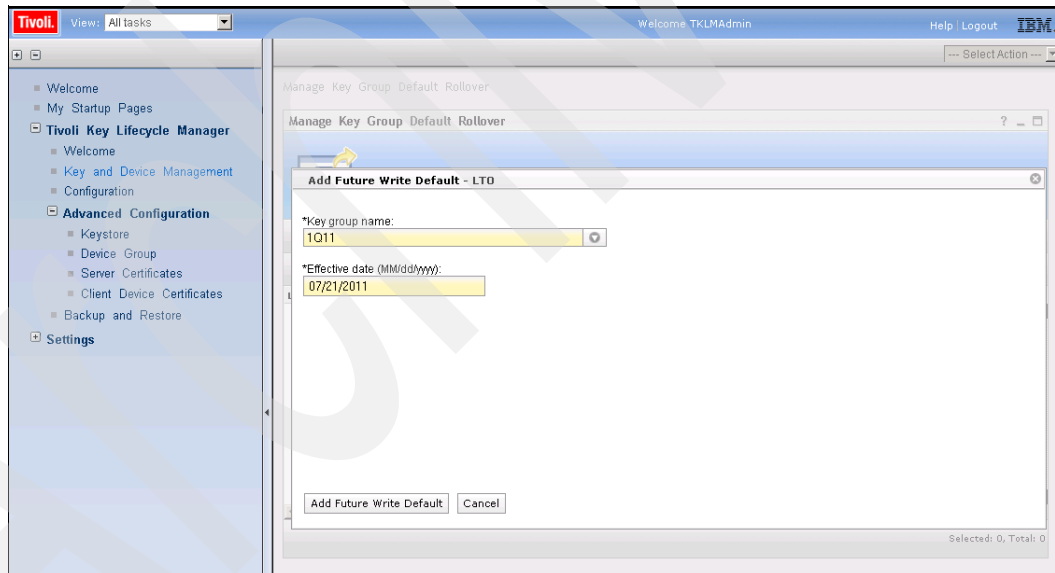

Figure 9-68 Add future write default
4. Enter the **Key group name** and **Effective date**, then click **Add Future Write Default** or **Cancel** (Figure 9-68).